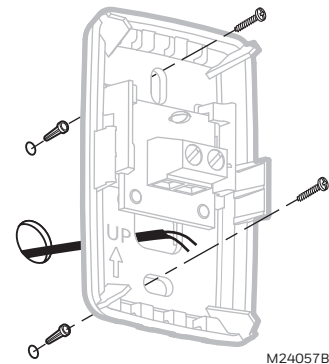

Fig. 82 Mount wall plate to wall.
5. Place wall plate over anchors, insert and tighten mounting screws see Fig. 82.